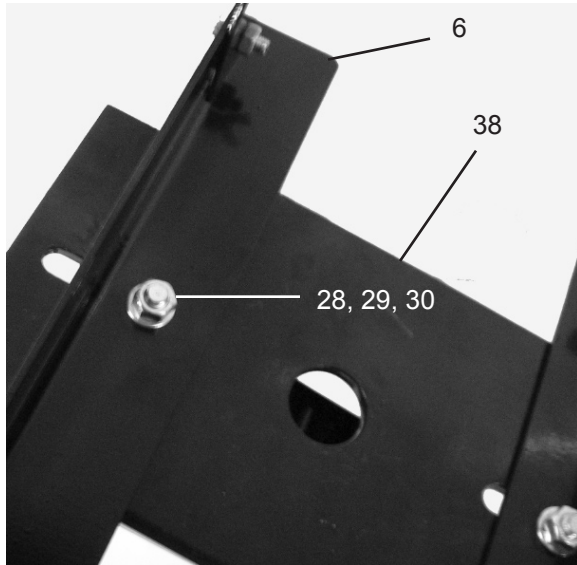

Figure 1
1. **NOTE:** The Base (38) of the Transmission Adapter is preassembled. Only the Adjustable Steel Angles (6) need to be attached to the Base. Some other minor assembly steps are required, as follows.
- Place each Adjustable Steel Angle (6) on top of the Base (38) and fasten to the Base using Bolts (30), Nuts (28) and Washers (29) and finger tighten on. See Figure 1.